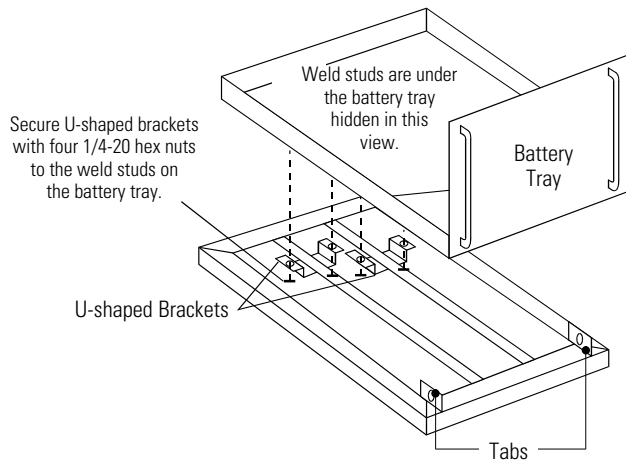

Figure 9. Attaching the Battery Tray to the Frame
8. Attach the battery tray to the frame as shown in Figure 9.